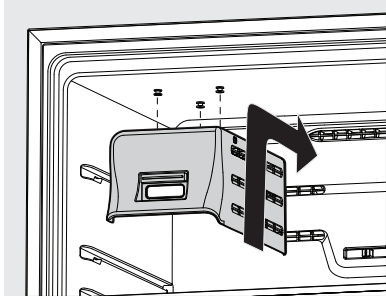

Figure 6
8. Install the plastic shutter into the window in the front of the cover. The shutter snaps into the clips on inside face of the cover, no tools are required. Slide the ice maker cover onto the shoulder screws on top of the unit until it locks into place with a snap. See Figure 6.